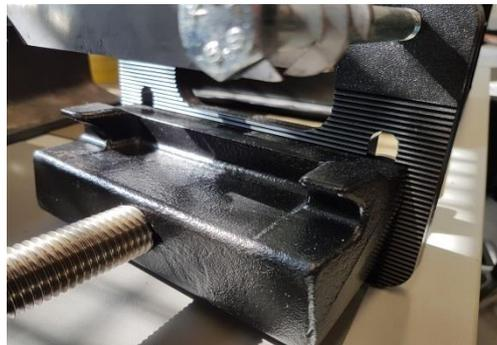

Figure 9: Corrugation of the mounting plate 9
- The mounting plate has on its inside a corrugation with a 1.5 mm grid (cf. figure 9). This allows the adjustment of the height positioning of the DSS in relation to the upper side of the rail head. Figure 9: Corrugation of the mounting plate